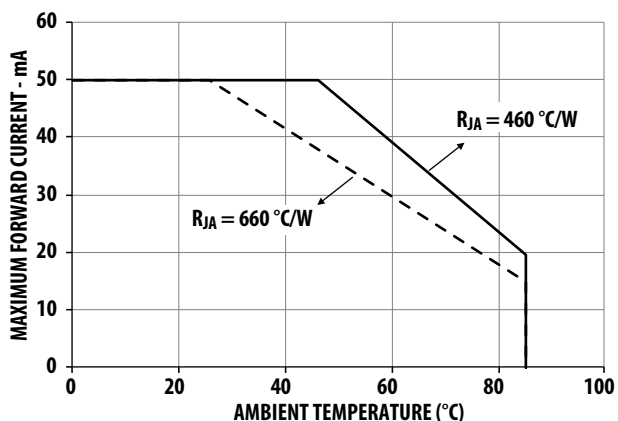
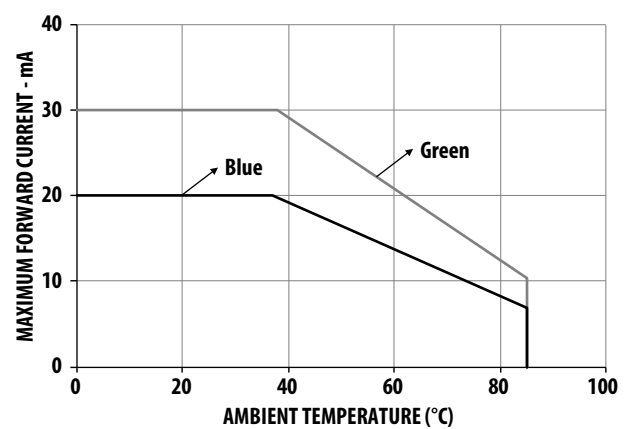

Figure 4. Maximum Forward Current vs Ambient Temperature
Figure 9. Maximum Forward Current vs Ambient Temperature
1. Derate linearly as shown in Figure 4 and Figure 9.